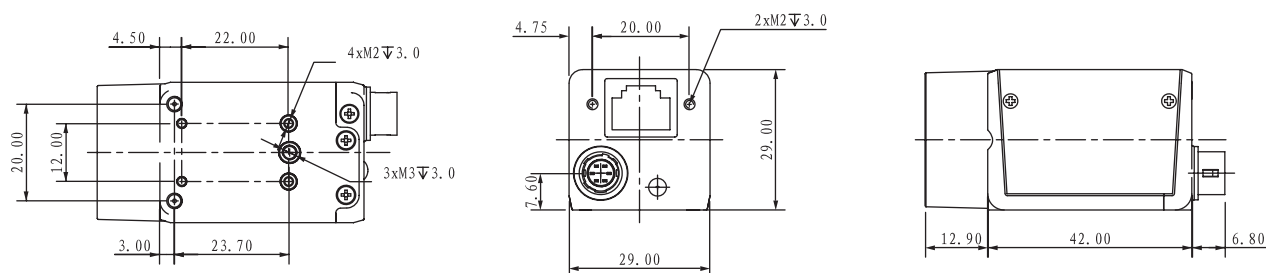

Fig. 1-1: Mechanical Dimensions (in mm) for GigE Cameras with 29*29*42mm housing (without GPIO).
- GigE Cameras with 29*29*42mm housing are as shown in Figure 1-1.